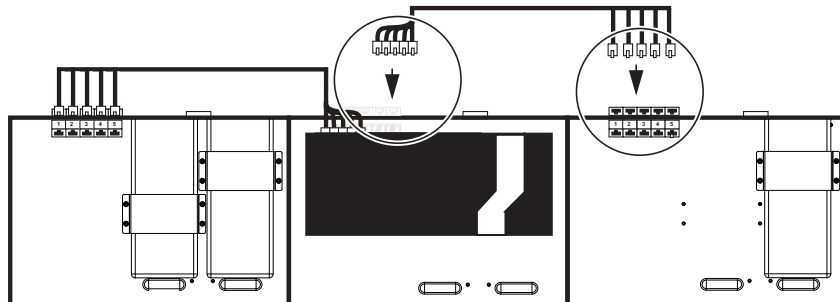

Figure 19. Connecting the next Cable Set to the right-most chassis Ethernet terminal ports
- 5 Repeat for other Cable Sets and chassis (except the chassis containing any Ethernet switches) as shown in Figure 19: